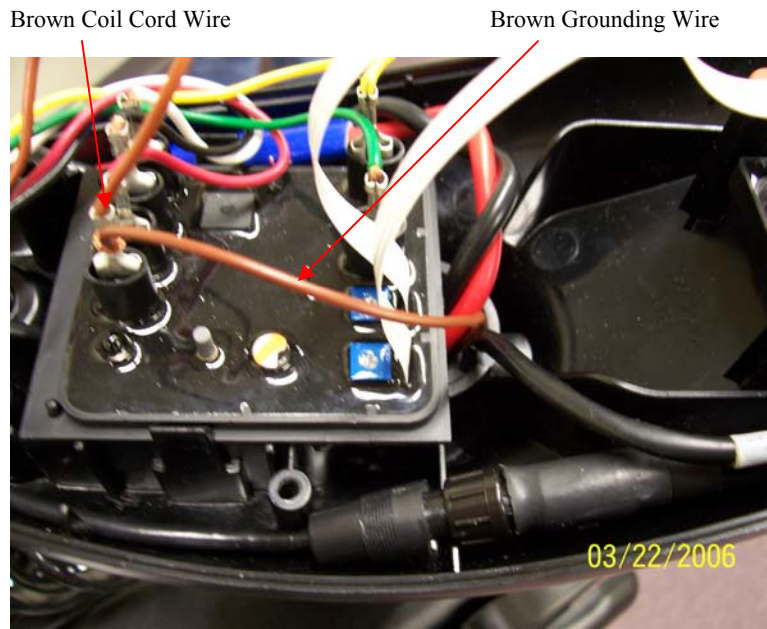

Figure 6
**If the motor being serviced is an AutoPilot (PD/AP):** cut the motor case grounding wire to the proper length, strip, wrap, and solder it to the female terminal of the brown wire (coming from the coil cord wire) on the AP compass control board. (see Figure 6)